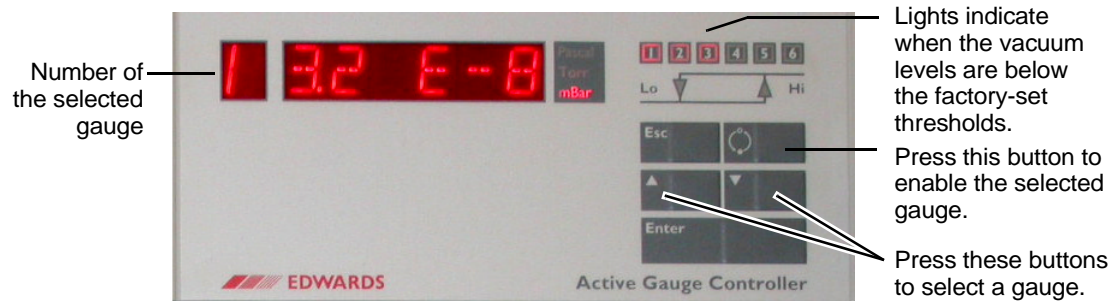

Figure 3-2 Vacuum Gauge Controller
4. Press the **ELECTRONICS** button to initialize the system electronics including the vacuum gauge controller (Figure 3-2).